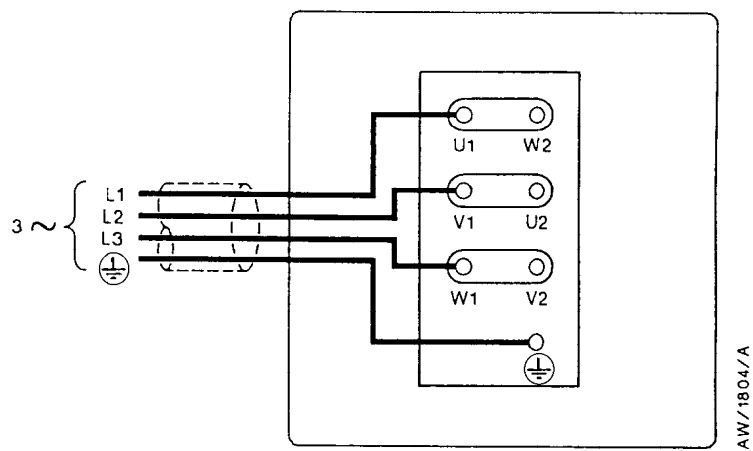

Figure 6 - Electrical supply connection, three-phase motors, 200-220 V 50 Hz, or 200-230 V 60 Hz
3. Refer to the electrical supply connection diagram for your pump, (Figure 6 or 7). Make sure that the metal links are connected as shown; if they are not, move the links to the position shown.
4. Pass the electrical supply cable through the cable-gland and connect to the appropriate terminals, as shown in Figures 6 and 7.
- Remove the terminal-box cover and swap wires L1 and L3: see Figures 6 and 7.